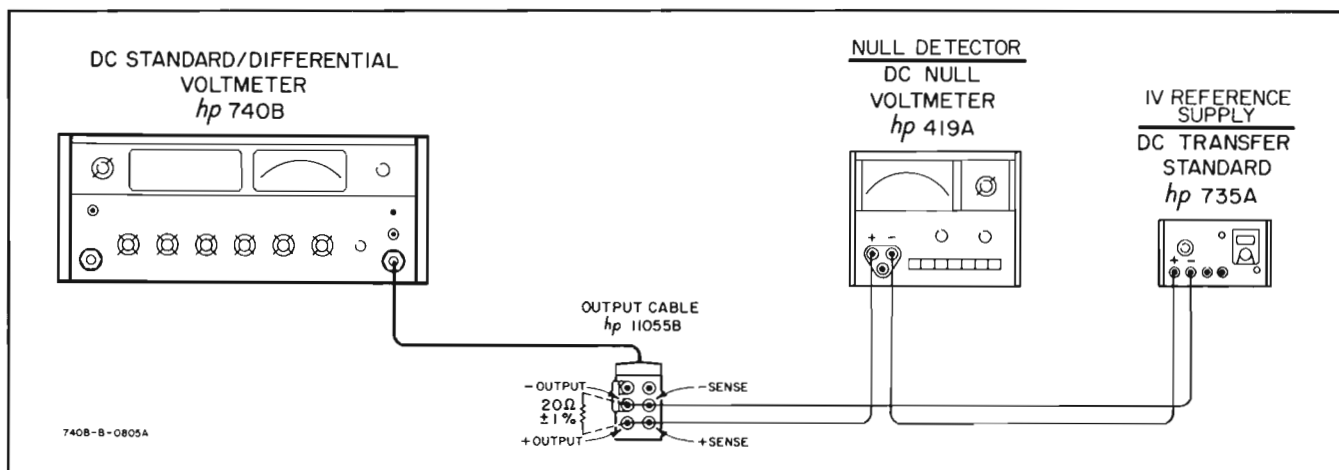

Figure 5-3. Load Regulation and Output Resistance Test
- a. Connect test setup shown in Figure 5-3. Leave the 20 Ω resistor disconnected.